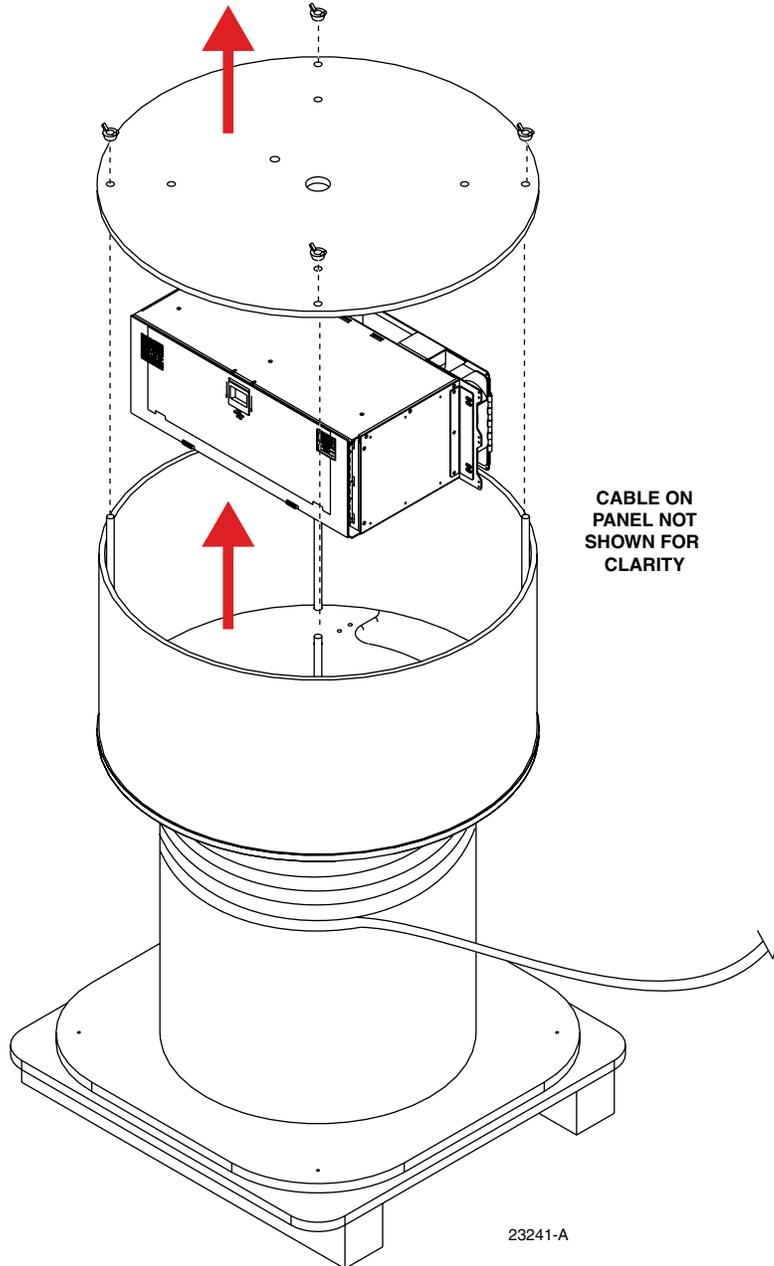

Figure 6. Extracting Connector Module from Hatbox
5. Unscrew the four wingnuts on the top of hat box and remove the hat box cover by lifting it straight up, as shown in Figure 6.